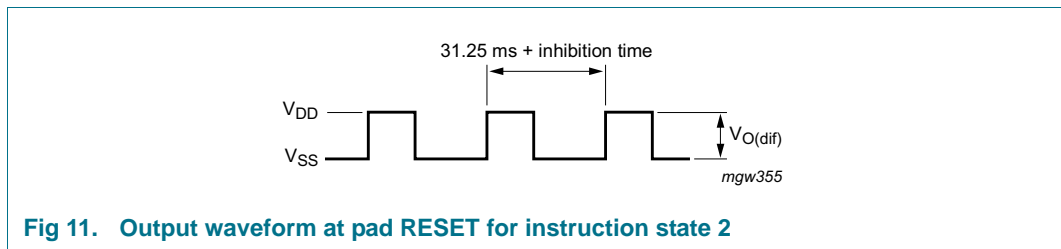
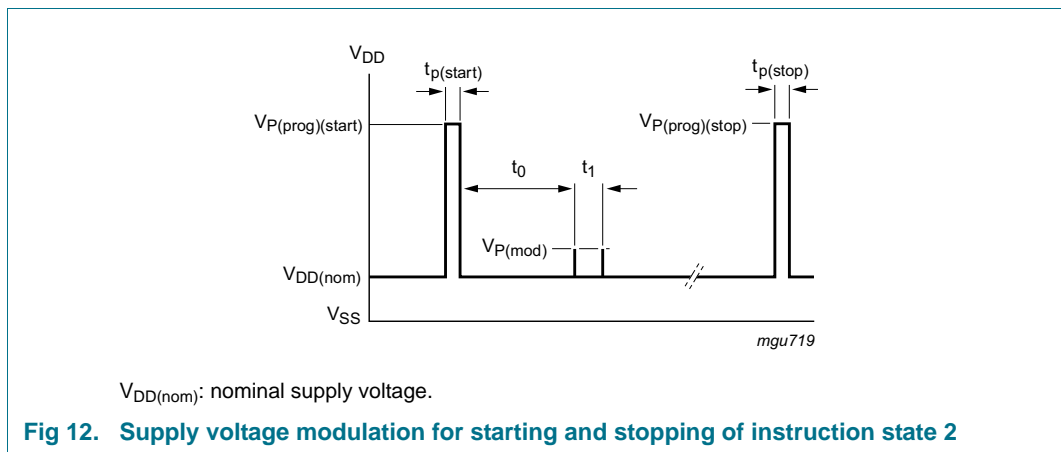

Fig 11. Output waveform at pad RESET for instruction state 2
Fig 12. Supply voltage modulation for starting and stopping of instruction state 2
Each instruction state is switched on with a pulse to $V_{P(\text{prog})(\text{start})}$. After this large pulse, an initial waiting time of t_0 is required. The programming instructions are then entered by modulating the supply voltage with small pulses (amplitude $V_{P(\text{mod})}$ and pulse width t_{mod}). The first small pulse defines the start time, the following pulses perform three different functions, depending on the time delay (t_d) from the preceding pulse (see Figure 7, Figure 8, Figure 11 and Figure 12):
- State 2: inhibition time has a value of $n \times 0.122$ ms. A signal with periodicity of 31.25 ms + $n \times 0.122$ ms appears at pad RESET and as current modulation at pad V_{DD} (see Figure 11 and Figure 12)
See Figure 7, Figure 8 and Figure 12.